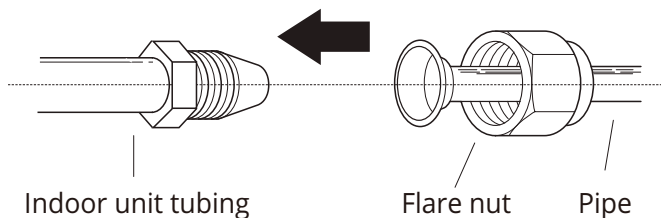

Fig 5.7
1. Align the center of the two pipes that you will connect. See **Fig. 5.7**.